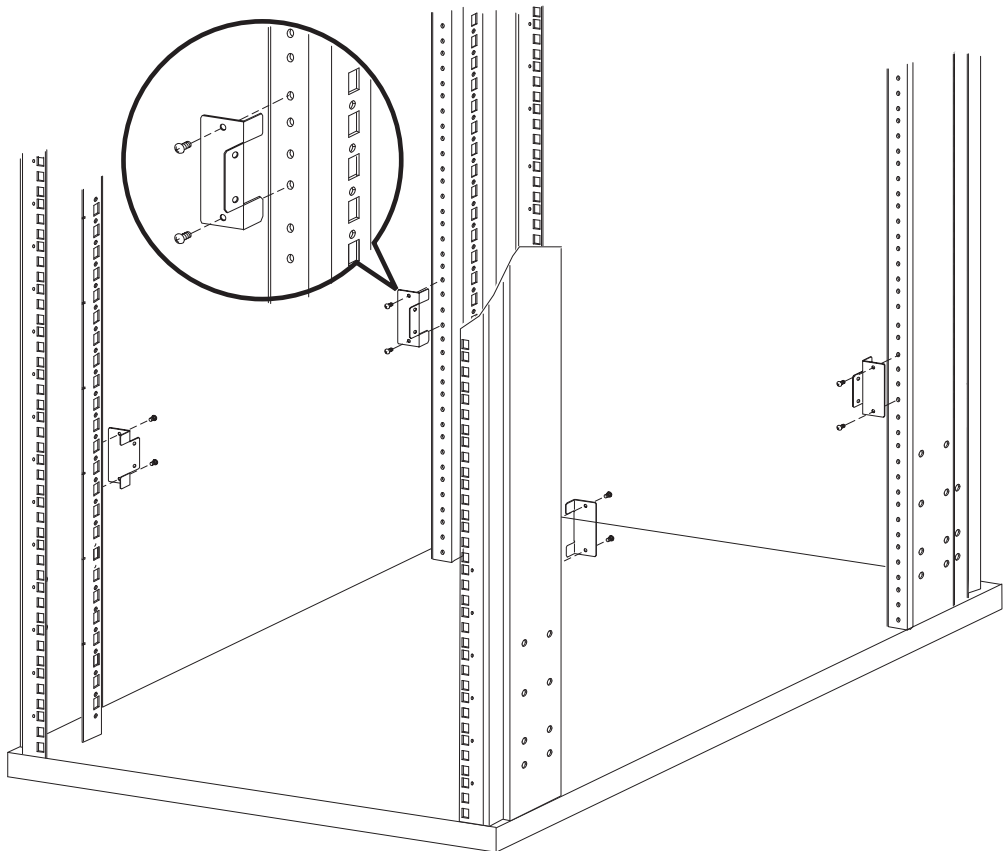

Figure 2: Angle brackets mounted on vertical cabinet rails in HP 9000, 10000 and 11000 series rack
4. Position a small angle bracket along the interior vertical rail as shown in Figure 2. Align the angle bracket so that the two threaded holes on the small tab align with the 1U location marked in step 3.